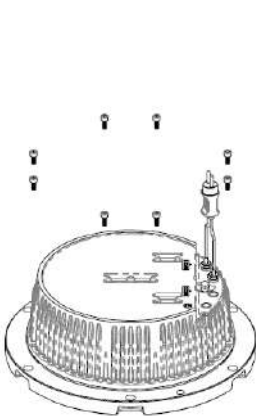

Figure 5-3
- Place the top of the lighting fixtures downwards and dismount 8 M5×12 screws (Figure 5-3);